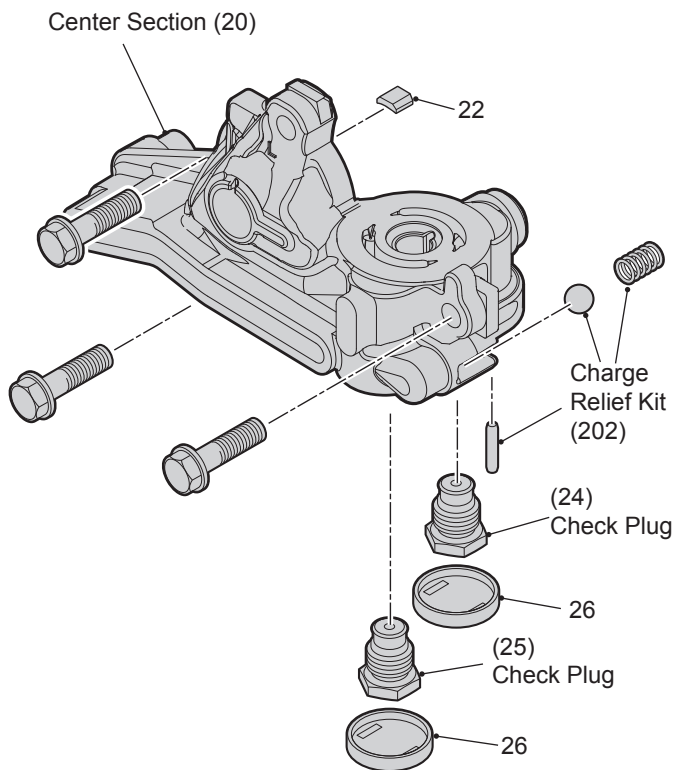

Figure 24, Center Section Kit (201)
Refer to Figure 24
1. Remove the bypass plate (22) from the center section.
2. Remove the plug seals (26) and discard. Refer to figure 24, on page 33.
In order to gain access to the check plugs (24 & 25), it is necessary to remove the plug seals (26). This is accomplished by inserting a seal hook or puller into, and through, one of the insertion points (*rectangular recesses*) on the plug seal, refer to figure 24. After successfully removing the plug seals, discard and replace with new seals.